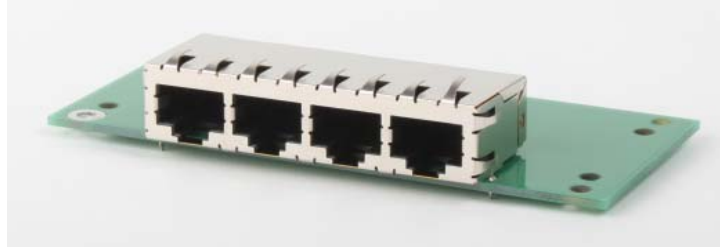

Figure 4: EP386 Panel
- **EP386 panel** – (For the DT9857 and DT9857-OEM modules only.) The EP386 panel, shown in Figure 4, contains four RJ45 connectors that are wired in parallel, making it useful when attaching up to four DT9857 modules together using the Sync Bus connector. Refer to page 105 for more information on using this panel.